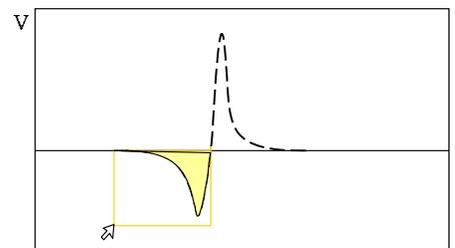

Figure 8
- 5) In order to find the area under the Voltage vs. time curve, carefully highlight your data as shown in Figure 8. Be sure to grab the entire “tail” of the curve, as well as all of the data up to the  $V = 0$  mark, where the voltage becomes positive again. Note: unless you have a data point precisely on the t-axis, you will either have to stop highlighting at the data point just before or just after the voltage becomes positive. For best results, choose the data point that is closest to the t-axis as your last highlighted data point. Then select “Area” from the “ $\Sigma$ ” drop-down menu. A box should appear with a calculated value for the area under the highlighted portion of the curve. Record this value in the table, and then calculate  $\Phi$  using the formula above and record as well.